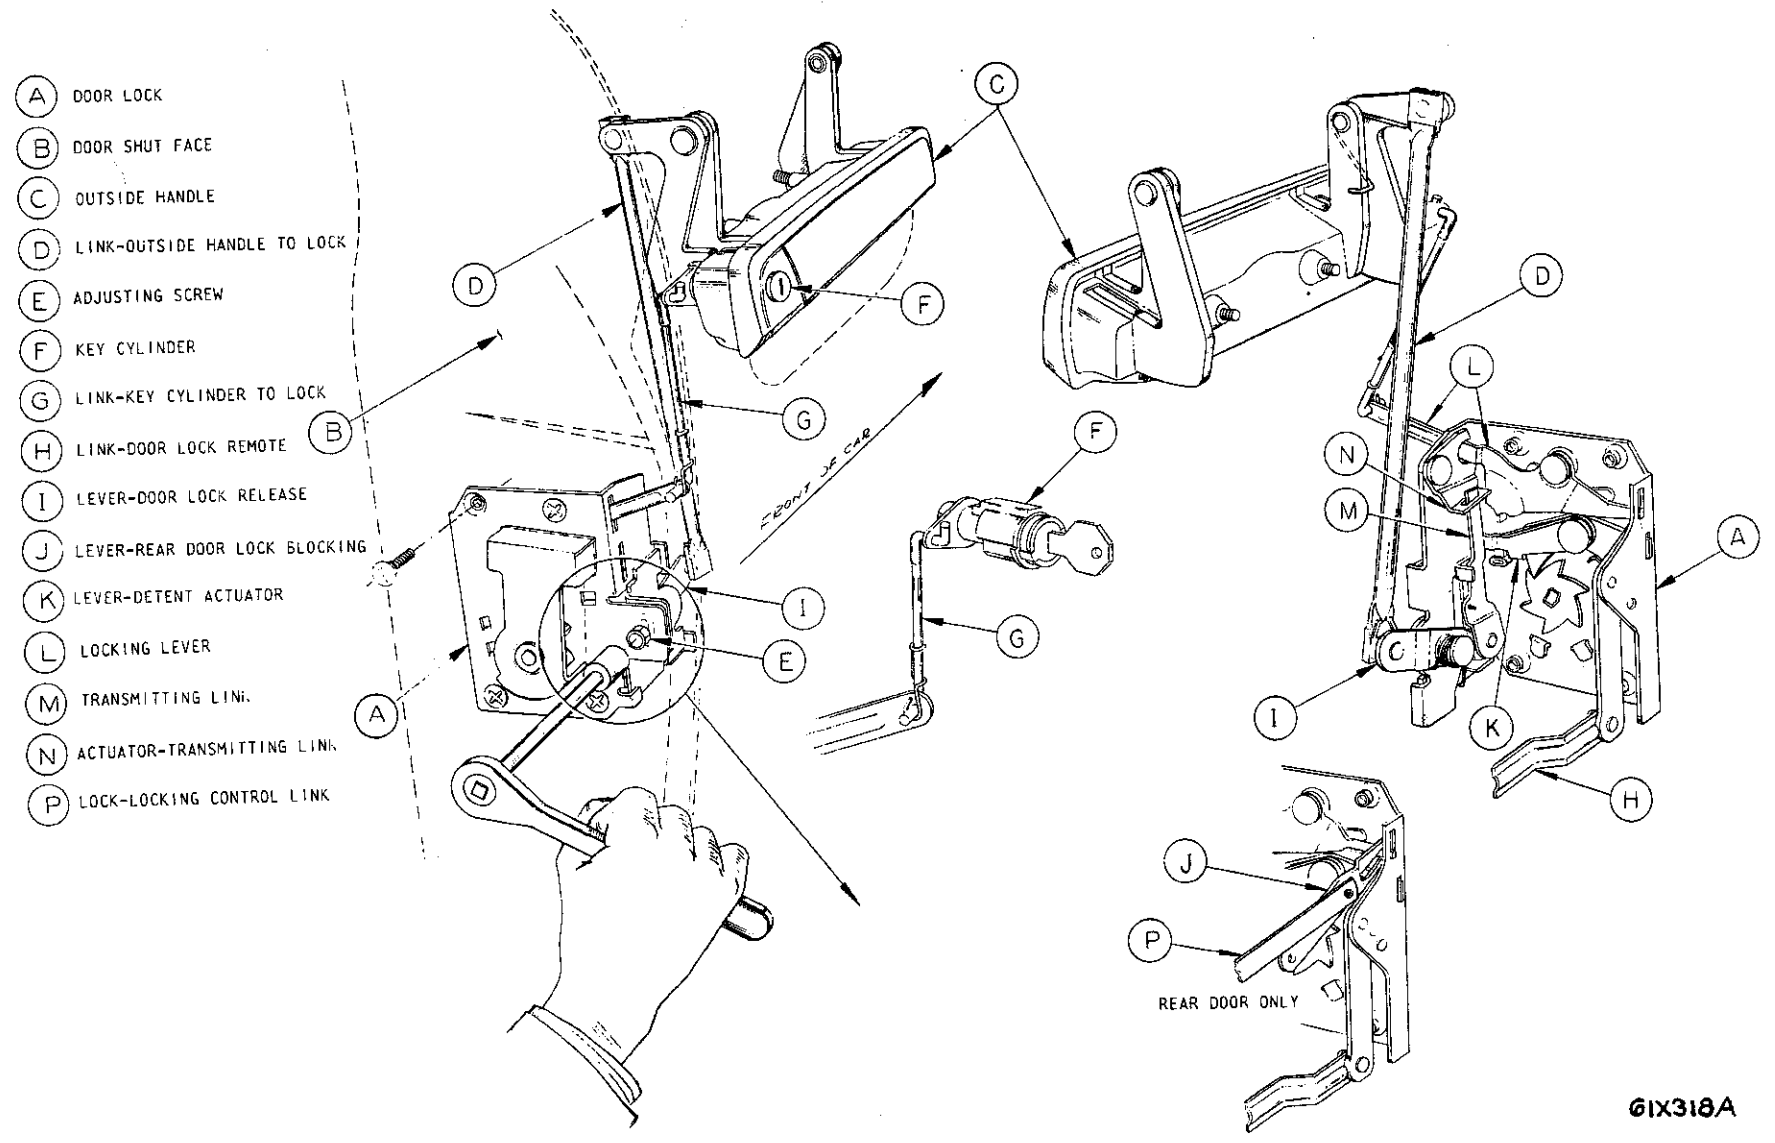

Fig. 46—Manual Door Lock and Linkage
Raise the glass to the top position and remove the lock and remote control screws (rear door—also take the nut off the locking lever assembly) and remove the assemblies from the panel. Rotate the bottom of the lock forward to disconnect the remote and lock control links (Fig. 46). Take the lock out of the door. On Imperial front doors, it is easier to get
58. OUTSIDE DOOR HANDLE AND KEY CYLINDER (Fig. 46)